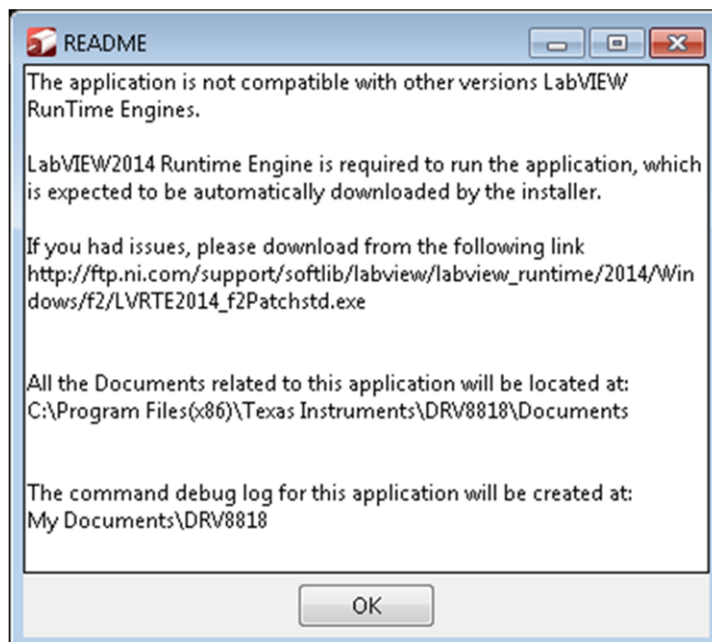

Figure 18. Readme Window
20. A readme window as shown in Figure 18 appears displaying the link for LV 2014 RTE.